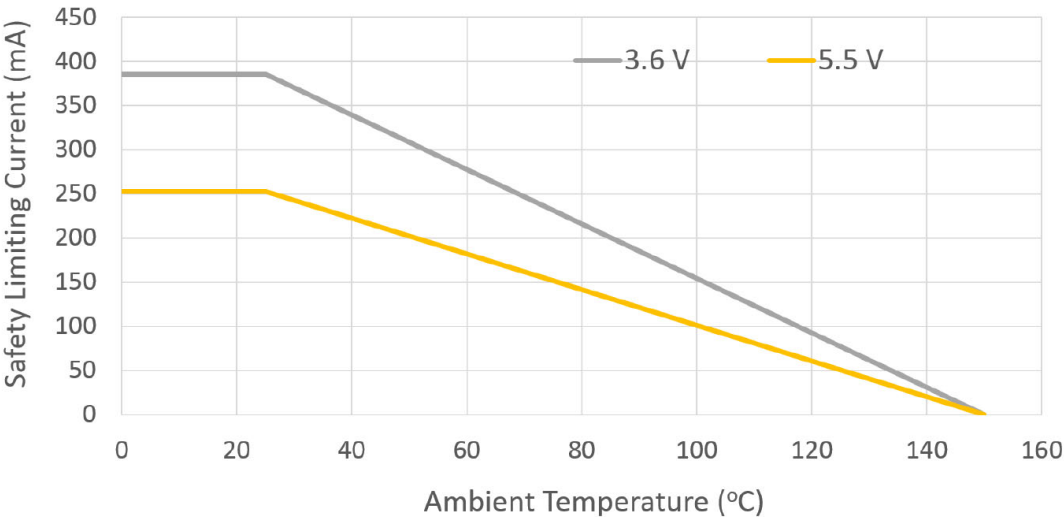
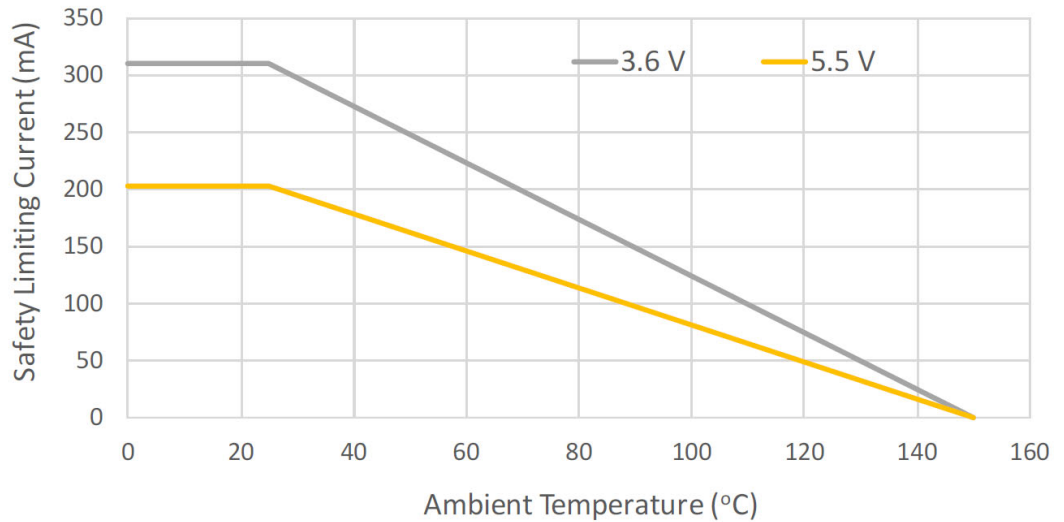

Figure 33. WB Stretched SOIC-8 Safety Current vs. Ambient Temperature Derating Curve
Figure 34. NB SOIC-8 Safety Current vs. Ambient Temperature Derating Curve
1. Maximum value allowed in the event of a failure. Refer to the derating curves Figure 33, “WB Stretched SOIC-8 Safety Current vs. Ambient Temperature Derating Curve” and Figure 34, “NB SOIC-8 Safety Current vs. Ambient Temperature Derating Curve,” on page 15.